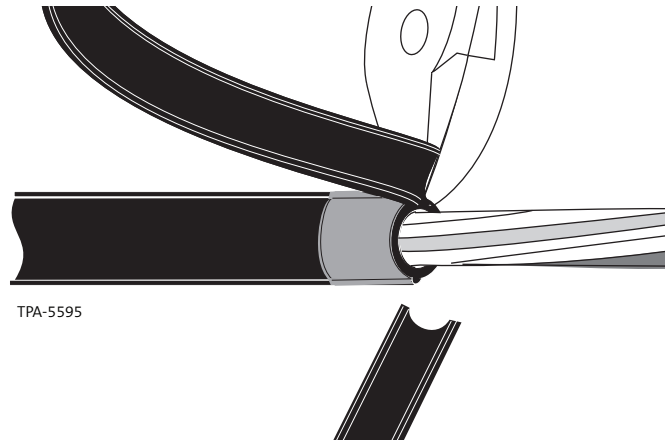

Figure 16
**Step 2:** Make the second ring cut at the second tape location, or simply trim off jacket (Figure 16).
**Step 5:** Using care to avoid damaging the cable core, use side cutters or scissors to trim off the split sheath sections at the tape wrap (Figure 16).